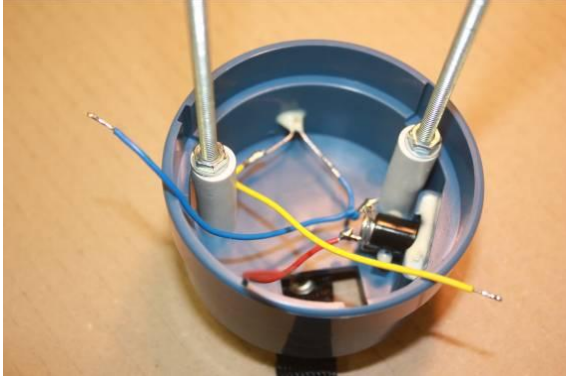

Fig. 20
4) Mounting the top cup with plastic bracket and cooling plate (Figs. 20, 21, 22)